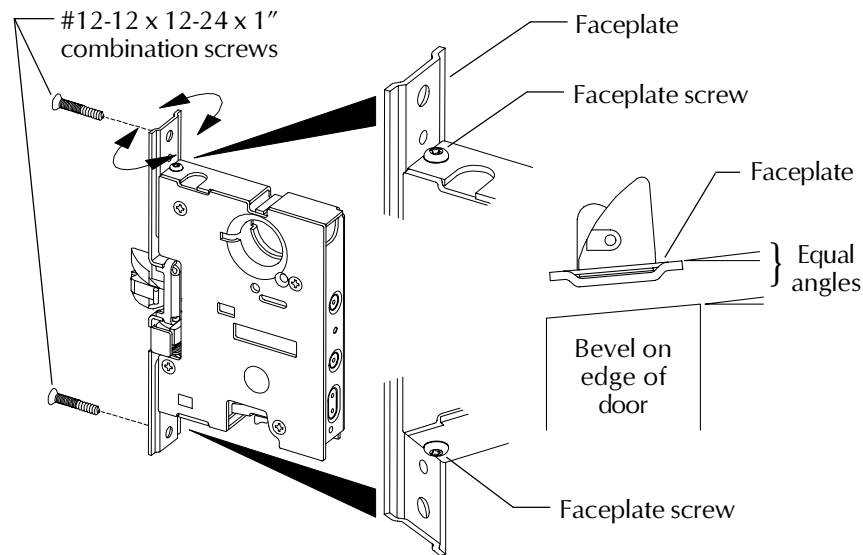

Figure 2
4. Adjust faceplate for door bevel (Figure 2):